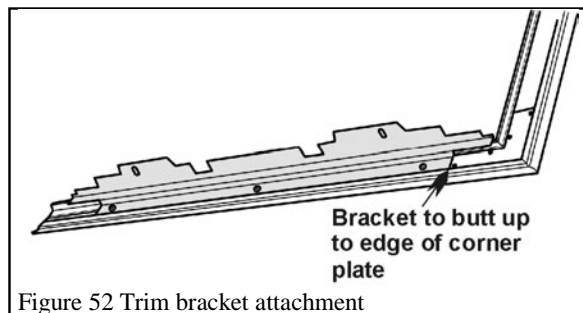

Figure 52 Trim bracket attachment
- Attach the two trim fixing brackets to the side trims with three screws each side. The brackets must butt up to the edges of the corner connection plates. See figure 52.